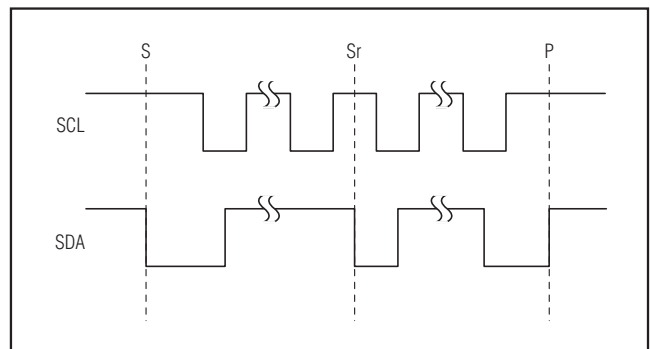

Figure 7. START, STOP, and REPEATED START Conditions
SDA and SCL idle high when the bus is not in use. A master initiates communication by issuing a START (S) condition. A START condition is a high-to-low transition on SDA with SCL high. A STOP condition is a low-to-high transition on SDA while SCL is high (Figure 7). A START condition from the master signals the beginning of a transmission to the MAX9670/MAX9671. The master terminates transmission, and frees the bus, by issuing a STOP condition. The bus remains active if a REPEATED START condition is generated instead of a STOP condition.